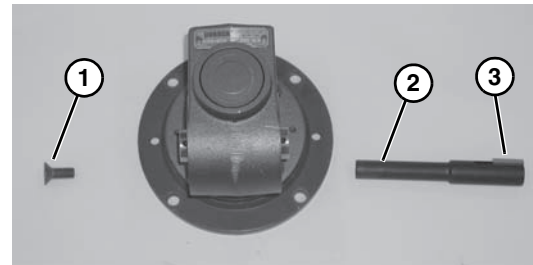

Figure 20
9. Remove M10 shaft locking screw (**Figure 20, item 1**), remove gear reducer output shaft (**Figure 20, item 2**) and key (**Figure 20, item 3**).
*Output shaft (**Figure 20, item 2**) is held in Gear Reducer with a tapered press fit. Removal may require use of an arbor press.*
10. Insert the new shaft with key (**Figure 20, item 3**) into new gear reducer. Tighten M10 shaft locking screw (**Figure 20, item 1**) to 300 in-lbs (34 N-m).